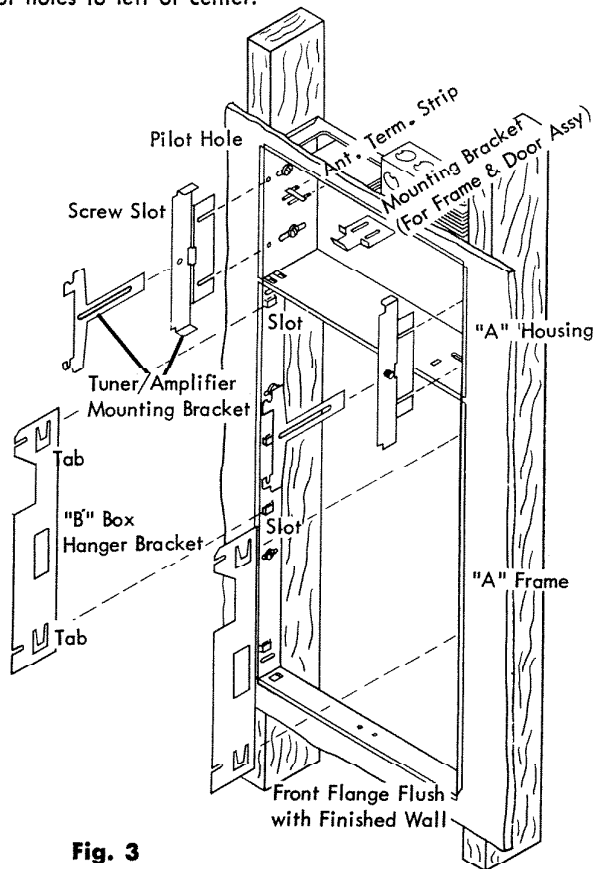

Fig. 3
4. The "A" Frame and Housing should be installed square and level with its front flange against the finished wall. (Fig. 3)
1. Fig. 3: Using two sheet metal screws (#6 x 1/4") provided, fasten the Ant. Term. Strip to top of "A" Housing at the pilot holes to left of center.
3. Fig. 3: Install the Mounting Bracket (Frame & Door Assy.) — use #8 x 3/8" sheet metal screws provided — fasten to centered pilot holes in top of "A" Housing with mounting stops against the front mounting.
4. Fig. 3: Install the Tuner/Amplifier Brackets — using #8 x 3/8" sheet metal screws provided — fasten thru screw slots into pilot holes in each side of "A" Housing.
4. Fig. 3: Install the Tuner/Amplifier Brackets — using #8 x 3/8" sheet metal screws provided — fasten thru screw slots into pilot holes in each side of "A" Housing. Install "T" shaped Tuner/Amplifier brackets to sides of mounting brackets using knurled nuts provided.
5. Fig. 3: Install "B" Box Hanger Brackets: Insert upper and lower Tabs into Slots in vertical member of "A" Frame. Both Tabs must slide down into their respective Slots simultaneously.